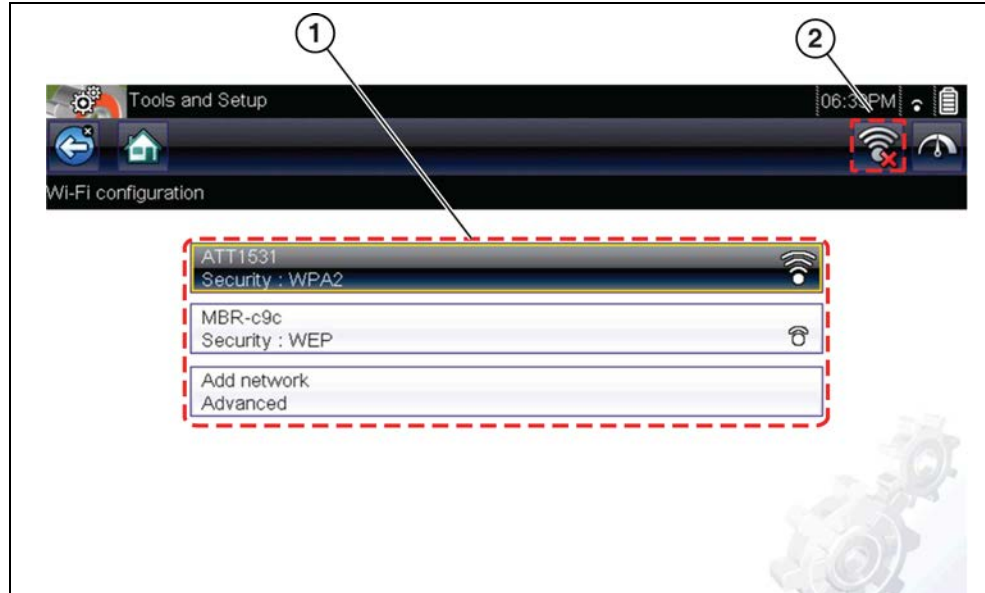

Figure 14-2 Wi-Fi Configuration Screen
3. The Wi-Fi icon will change to the Wi-Fi symbol with “x” mark (Figure 14-2), indicating Wi-Fi is on.
4. Select your network. Use the scroll feature to show all active connections (Figure 14-2).